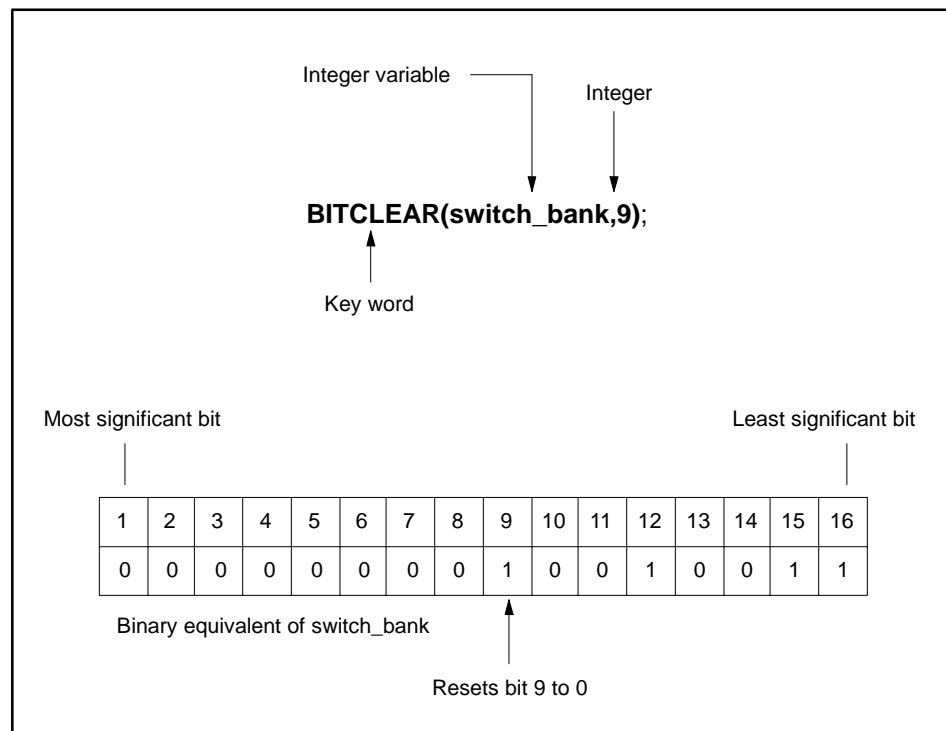

Figure 11-9 BITCLEAR Procedure
- The integer specifies which bit in the binary equivalent of the integer variable is the one that you want to clear. The value must be a number between 1 and 16. See the example in Figure 11-9.